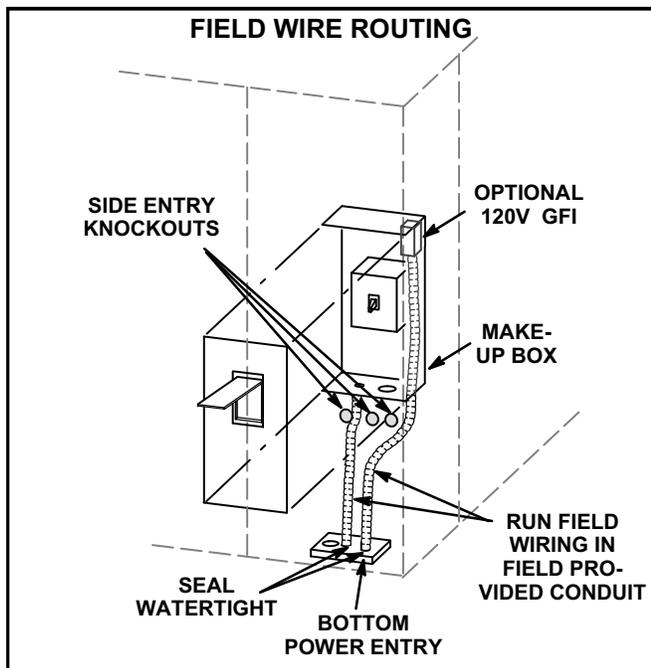

FIGURE 8
Route field wiring in conduit between bottom power entry and disconnect. See figure 8. This does not supersede local codes or authorities having jurisdiction.
- 3- *Units With Optional 120v GFCI Outlet -* Route and connect separate 120v wiring to GFCI outlets which do not have factory-installed wiring. Route field wiring in conduit between bottom power entry and GFCI. See figure 8.